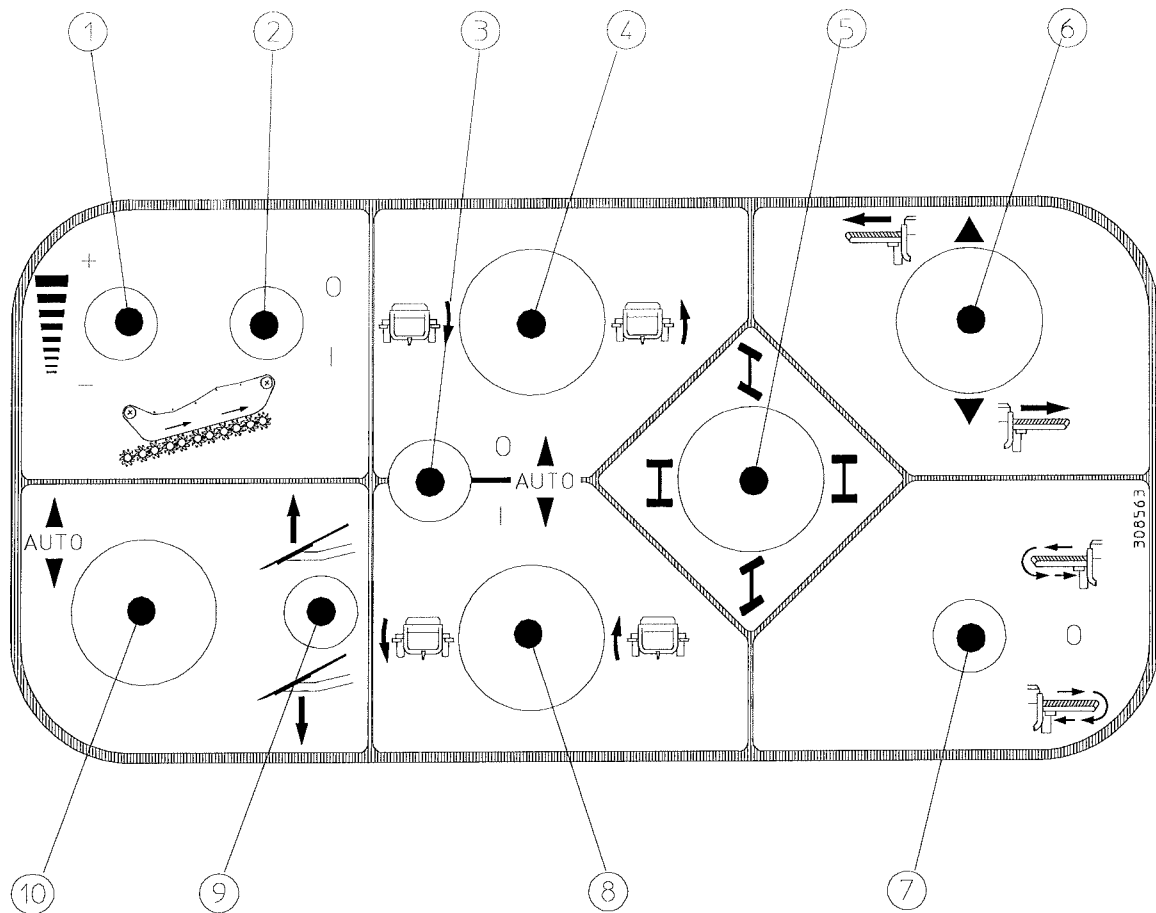

fig 4.2
When the machine is being towed along public roads, the on/off power switch (fig 4.2 item 1) must be in the off position to avoid any risk of the control switches being accidentally activated.
Explanation of control switches (See fig 4.2 for layout of driver's control box).
When the machine is being towed along public roads, the red on/off power button (fig 4.2 item 1) must be in the off position to avoid any risk of the control switches being accidentally activated.